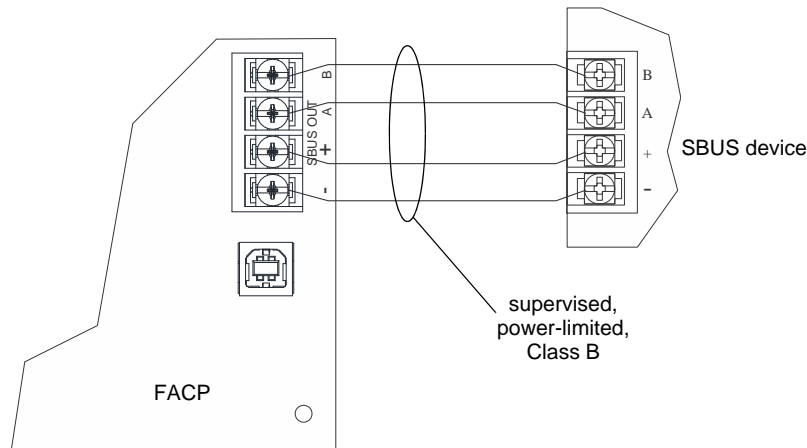

Figure 4.11 SBUS Class B Wiring
Figure 4.11 illustrates SBUS, Class B configuration.
3. Connect the RA-1000 to the panel (see Figure 4.11).
4. After the annunciator wiring to the panel has been completed (refer to Figure 4.11), replace the electronic assembly in the back box. Place the bezel over the back box and tighten the set screws on the bezel.